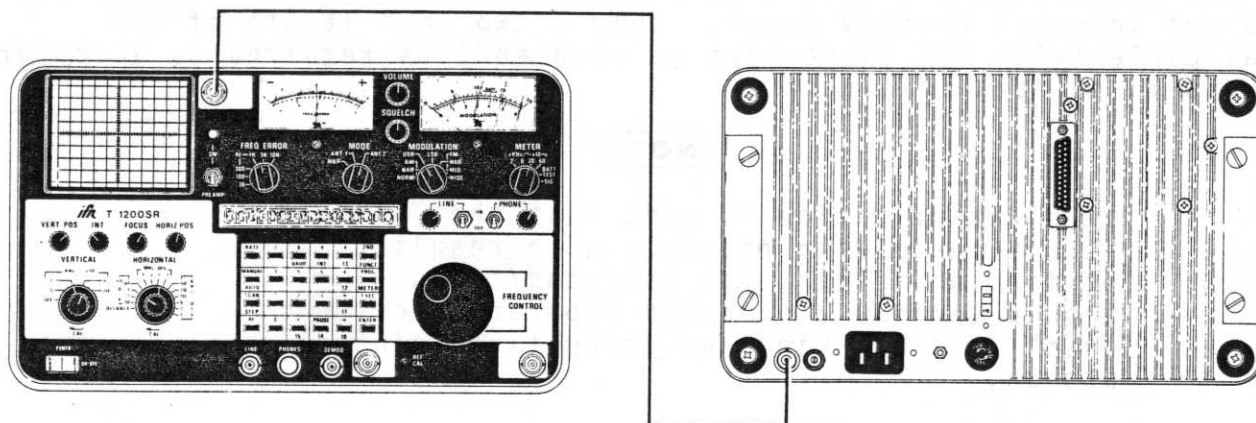

Figure 5-1 Performance Test Set-Up Diagram
| 2. | Connect 2-foot length of 50 Ω coaxial cable between ANT 1 Connector (29) and External Reference Connector (40) as shown in Figure 5-1. |